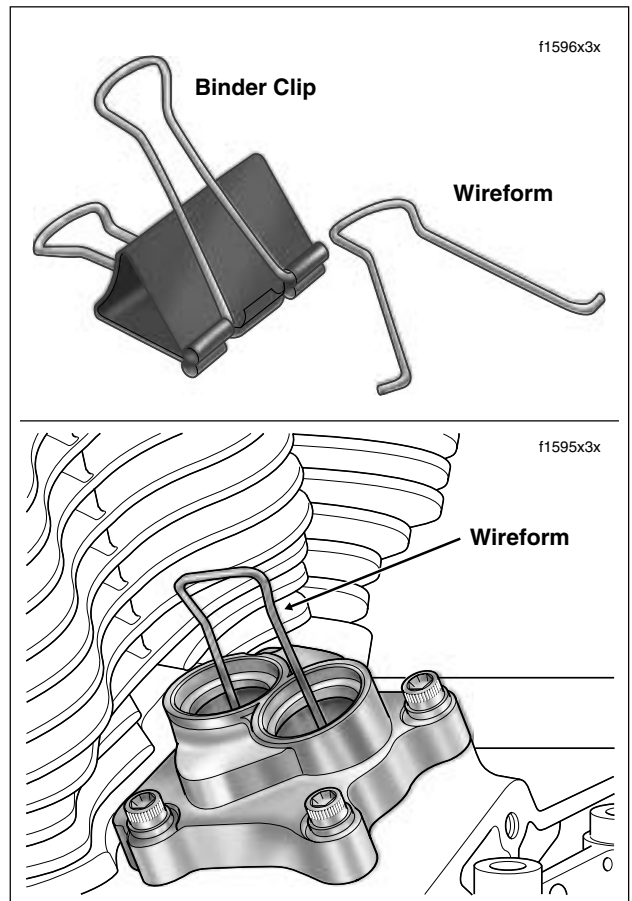

Figure 3-102. Fashion Tool to Hold Hydraulic Lifters
- a. Obtain a large binder clip (available at any office supply store). Squeeze wireforms to remove from binder clip. See upper frame of Figure 3-102.
- b. Compress wireform slightly and insert free ends into outer and inner lifter cover bores so that legs engage walls of both hydraulic lifter sockets. See lower frame of Figure 3-102.